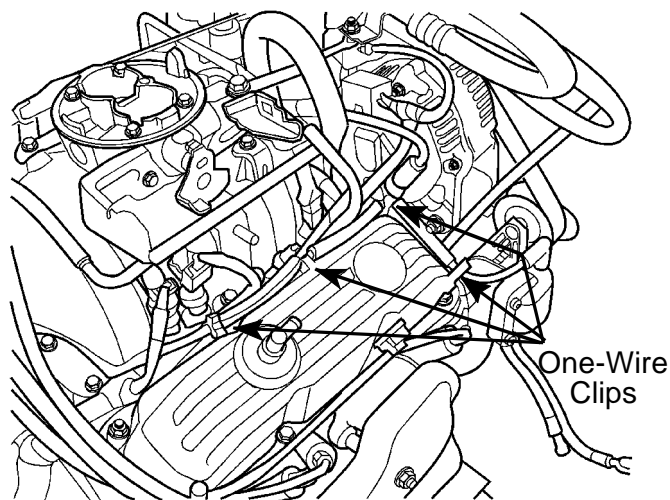

FIGURE 11
1. Coil Wire Routing (Figure 11 and 12)
- C. Install three (3) one-wire clips p/n 56028186 along the top and front of the valve cover studs (Figure 11).